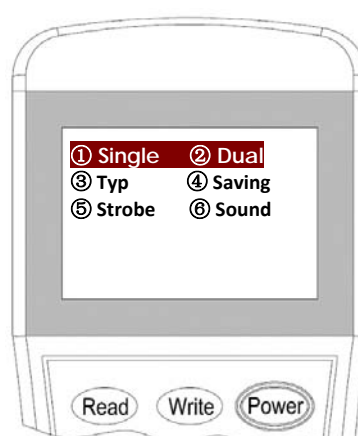

Figure 9
3. Input the "**1**" for **Single** Address mode or "**2**" for Dual Address mode then press "**Write**" to change the setting into the desire mode (Figure 9).